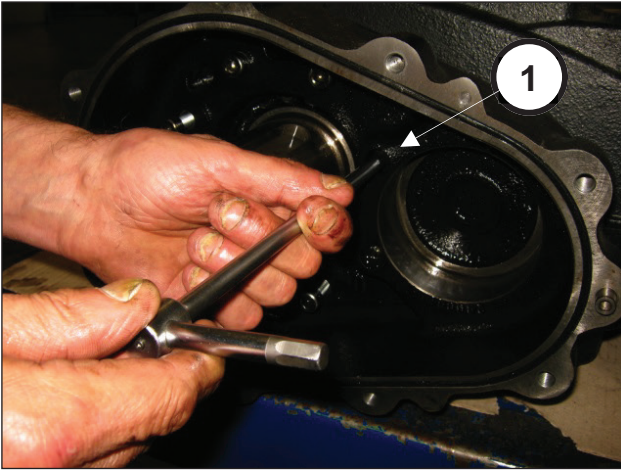
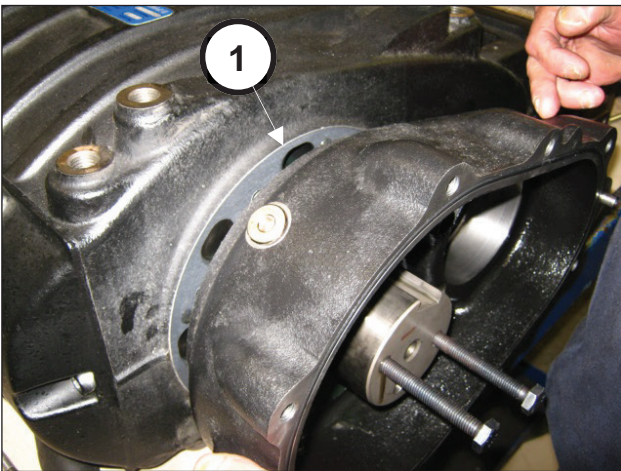

Fig. 22
Fig. 23
On the opposite side, unscrew the reduction gear box fixing screws (pos. ①, Fig. 22), then remove it (pos. ①, Fig. 23).